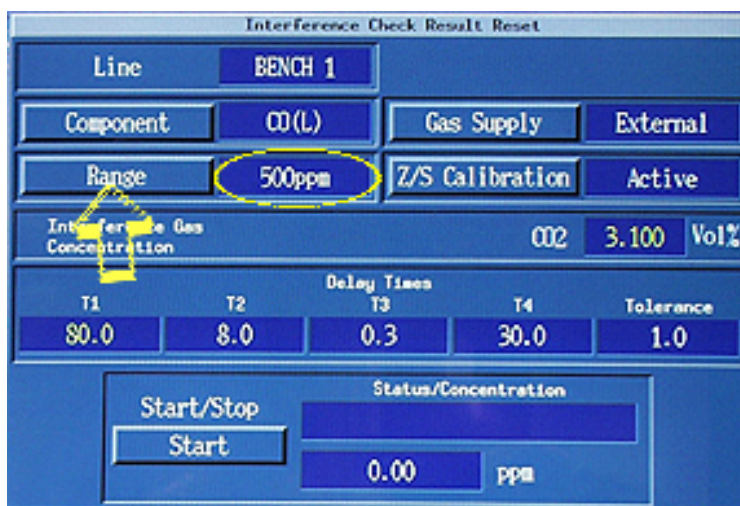

Figure 11
- 109 Verify that the field to the right of the “Range” button contains the appropriate range. If not, click on the “Range” button (see the arrow in Figure 11) and from menu items that appear below the button, click on the appropriate range. See the circle in Figure 11.